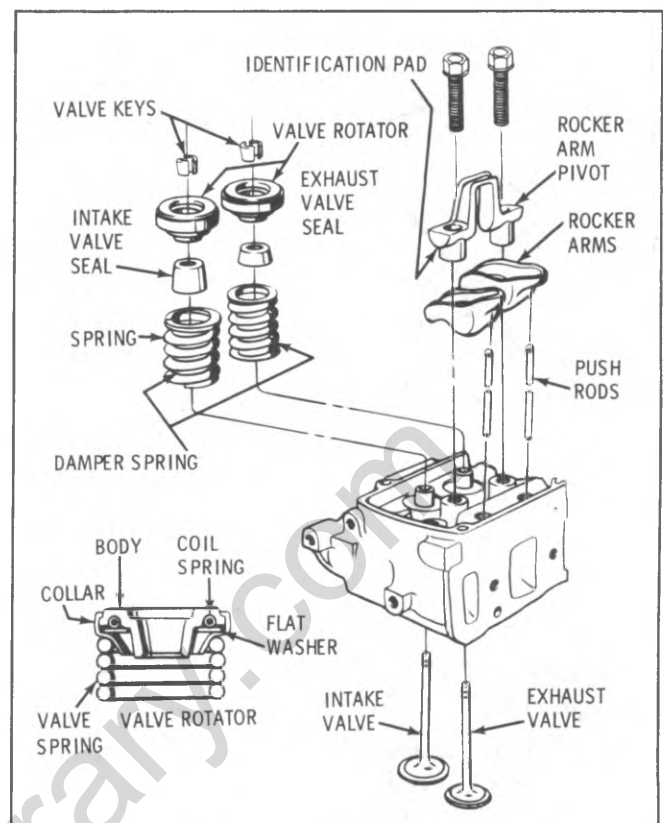

Fig. 6A3-38--Cylinder Head-Exploded View
a. Occasionally this noise can be eliminated by rotating the valve spring and valve. Crank engine until noisy valve is off its seat. Rotate spring. This will also rotate valve. Repeat until valve becomes quiet. If correction is obtained, check for an off square valve spring. If spring is off square more than 1/16" in free position, replace spring. (Fig. 6A3-37).